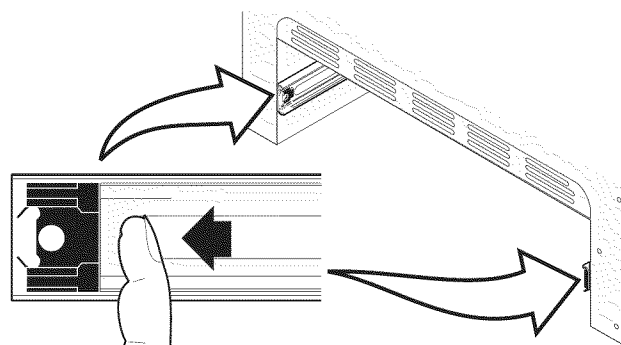

**Figure 48: Removing the warmer drawer**
3. On left warmer drawer rail, locate black release lever and press up with finger while pulling out slightly on the oven drawer handle. On right warmer drawer rail, locate black release lever and press down with finger while pulling out slightly on the warmer drawer handle (See Figure 48).